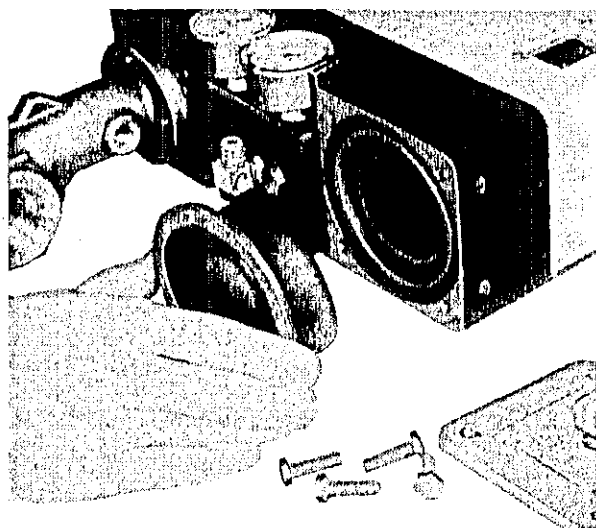

Figure 14 - Diaphragm replacement.
(Figures 14, 18 and 19)
Unscrew the two pressure connection nuts (138a) and pull tubing (140) out. Remove four cap screws (139). Remove diaphragm cover (137). Remove diaphragm (136). Form new diaphragm (136) and insert over the piston as shown (Fig. 14). Place the diaphragm roll into the bracket groove. Take necessary steps not to twist or bend the diaphragm during its replacement. Replace the diaphragm cover (137) with the four screws (139) and reconnect the pressure connection nuts (138a). Check tightness of connections.